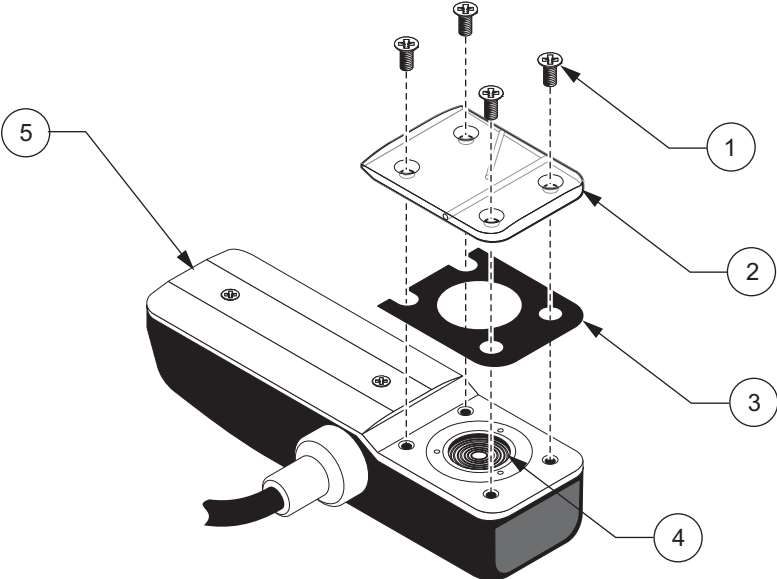

Figure 18 Removing the Protective Cover (Non-Oil Sensor)
2. Remove the screws from the protective cover (Figure 18).
6. Reattach the gasket and cover (note orientation in Figure 18). Tighten the screws until the gasket starts to compress.